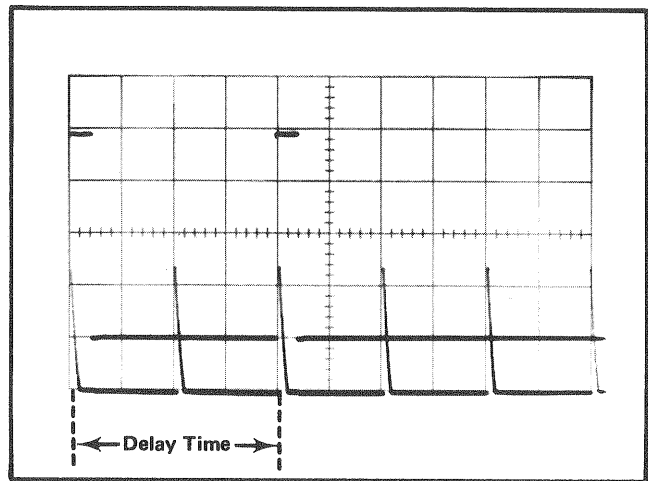

Fig. 5-11. Display of 2101 output pulse and time markers. Time markers are used to measure pulse delay.
d. Apply a 1 ms trigger signal and a .1 ms marker signal from the time-mark generator. Adjust the test oscilloscope triggering level, vertical sensitivity, and positioning controls for a dual display with a pulse amplitude of 4 divisions and a marker amplitude of approximately 2 divisions (see Fig. 5-11).